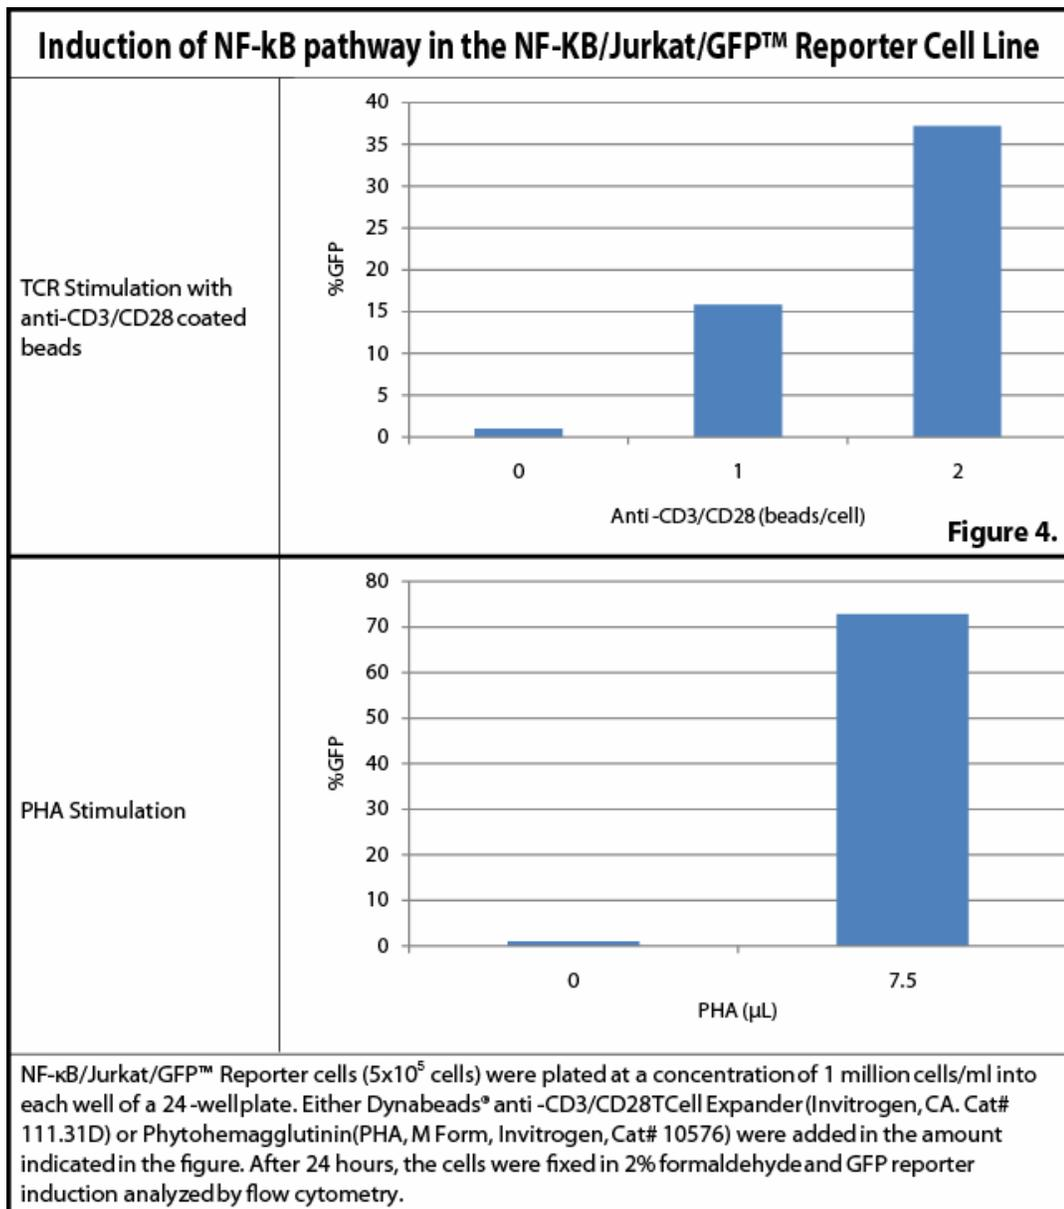

Figure 4.
NF- κ B, a member of the rel family of transcription factors, regulates several important physiological processes, including immune responses, inflammation, cell growth, apoptosis, tumorigenesis, and the expression of certain virus genes (HIV and CMV). As a result, the NF- κ B signaling pathway has been a target for pharmacological intervention, especially in models of inflammation or cancer, where the pathway is often constitutively active (1). Over 750 inhibitors of the NF- κ B pathway have been identified, including both natural and synthetic molecules (1). Conversely, many different stimuli have been identified which activate the NF- κ B pathway, including cytokines such as TNF- α and interleukin-1 β , pathogenic bacteria and viruses, bacterial lipopolysaccharide and peptidoglycan, and oxidative stress (Figure 4.). The NF- κ B/Jurkat/GFPTM cell line allows the researcher to study both potential inhibitors, activators, and antagonists of the NF- κ B pathway, and as such, is an extremely valuable tool for a wide variety of research applications.